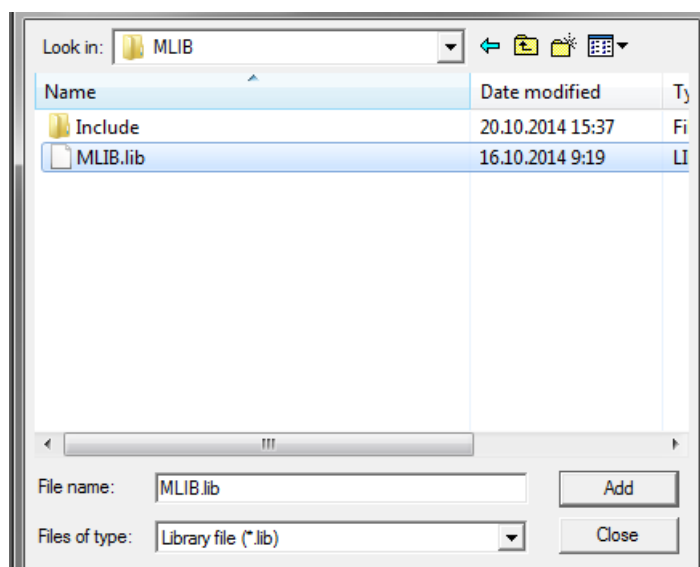

Figure 1-23. Adding .lib files dialog
5. Navigate to the parent folder C:\NXP\RTCESL\CM7F_RTCESL_4.3_KEIL\MLIB, and select the *mlib.lib* file. If the file does not appear, set the Files of type filter to Library file. Click Add. See Figure 1-23.